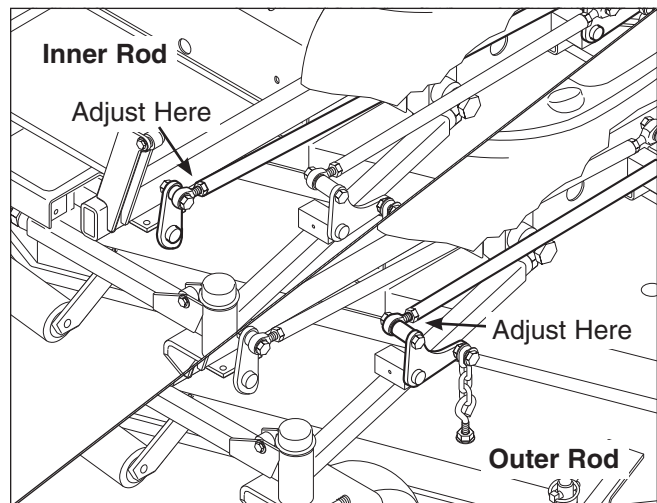

Figure 41. Adjust the Inner & Outer Lift Rods
8. Refer to Figure 41. To adjust the inner lift rod, loosen the jam nut on the front ball joint then remove the 1/2" hardware fastening the ball joint to the lift pivot arm. Turn the ball joint clockwise to shorten the distance between the rod pivots or counterclockwise to lengthen the distance between the rod pivots. Reinstall the ball joint on the lift pivot arm and secure with the 1/2" hardware previously removed. Tighten the jam nut against the lift rod.
9. Refer to Figure 41. To adjust the inner lift rod, loosen the jam nut on the front ball joint then remove the 1/2" hardware fastening the ball joint to the lift pivot arm. Turn the ball joint clockwise to shorten the distance between the rod pivots or counterclockwise to lengthen the distance between the rod pivots. Reinstall the ball joint on the lift pivot arm and secure with the 1/2" hardware previously removed. Tighten the jam nut against the lift rod.